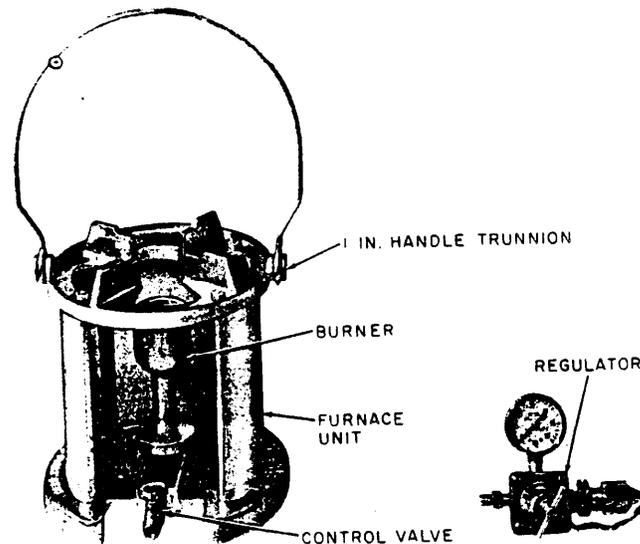

Fig. 1 - D Propane Furnace
2.01 The D propane furnace consists of a burner, furnace unit (includes handle, top, body, and base), regulator (includes regulator, gauge, and dust cap), and a control valve. The entire unit weighs about 15 pounds. Figure 1 illustrates the D propane furnace.